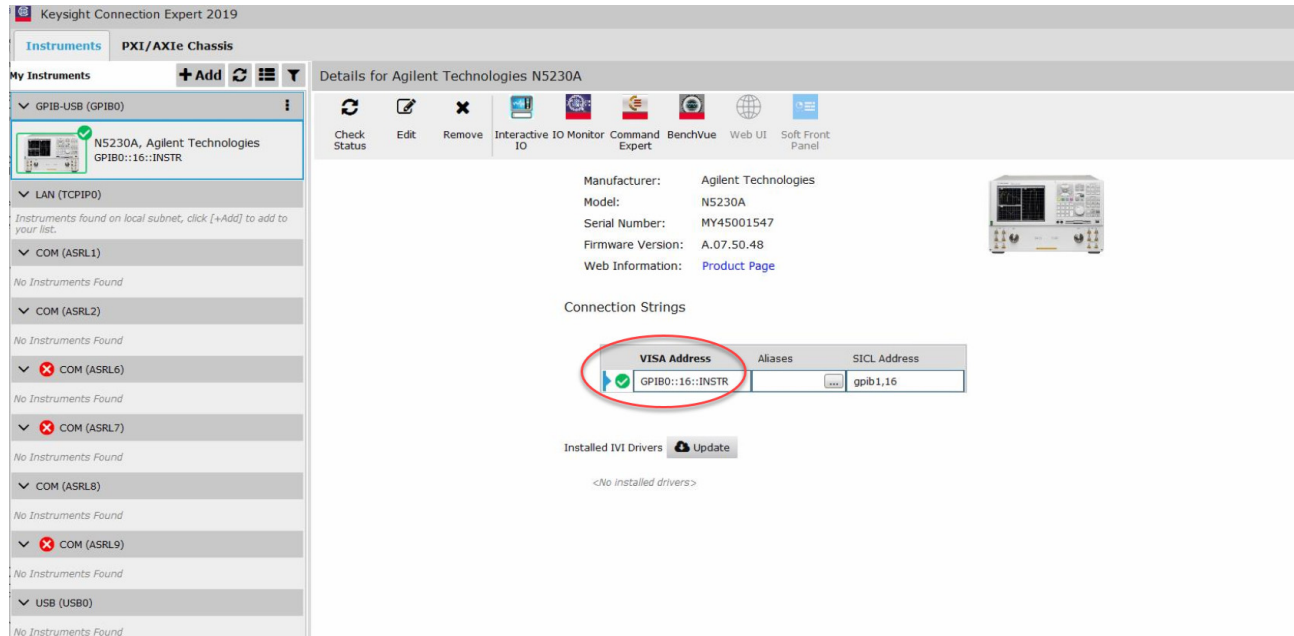

Figure 49 Checking VISA/SICL address for Vector Network Analyzer in the Keysight Connection Expert
- b A pop-up box appears where you can enter either the VISA/SICL address or the IP address. Enter the information and click the **Verify** button, followed by the **Done** button to close this box. The VISA/SICL address or the IP address can be obtained from the Keysight Connection Expert application, as shown in Figure 49.